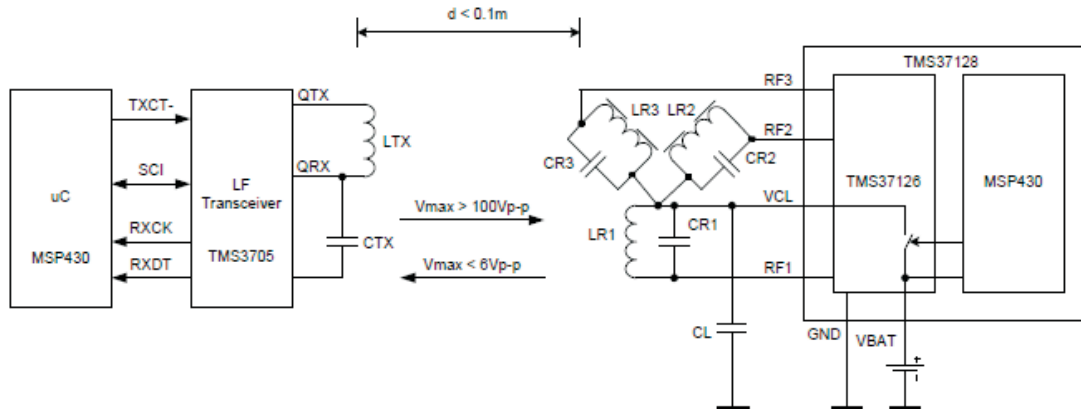

Figure 1. Typical LF Only Fob Limited to a Few Centimeters
Existing low frequency (LF) solutions do not have the bi-directional range to achieve 1 meter. While the basestation downlink achieves high transmit voltages, the transponder (or fob) uplink cannot. Figure 1 shows that bi-directional communication is limited to the weakest path.